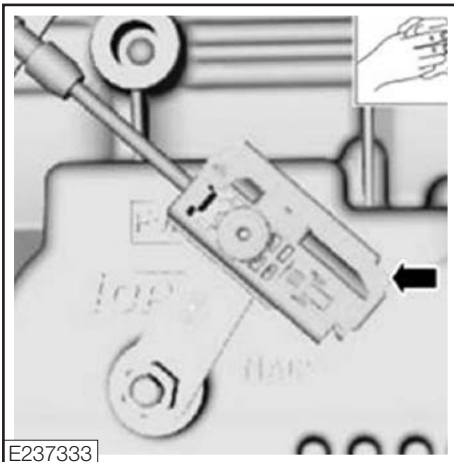

Figure 91
1. Clean the cable adjuster lock (**Fig. 91**).